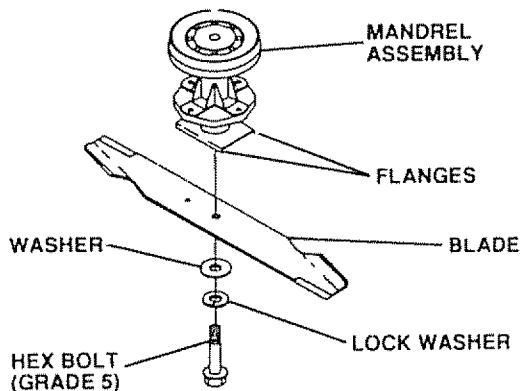

FIGURE 44
- Remove bolt, lockwasher and washer (Fig. 44) (turn counterclockwise) (↺)